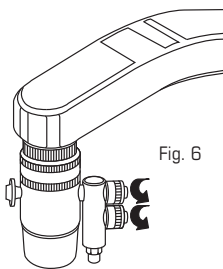

Fig. 6
1. **Unscrew** to remove the textured nuts (Fig. 6).